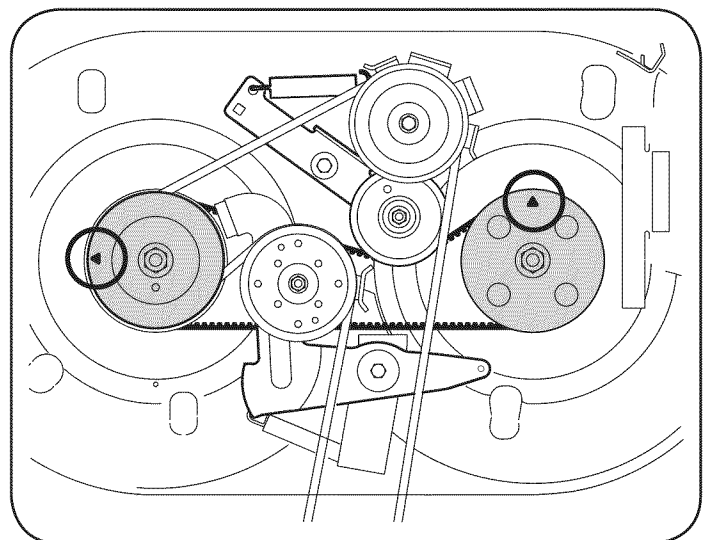

Figure 20
2. The top of each spindle pulley is marked with an arrow. See Figure 20. The arrows should be perpendicular (at a 90° angle) to each other.